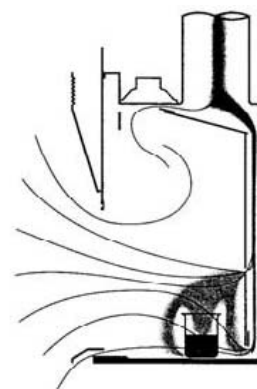

Figure 3
- C. Heavier than air gases** is used for large volumes of dense vapors (such as chlorinated solvents) being generated within the hood. Figure 3 demonstrates this position increases the volume of air being exhausted from the lower part of the hood.